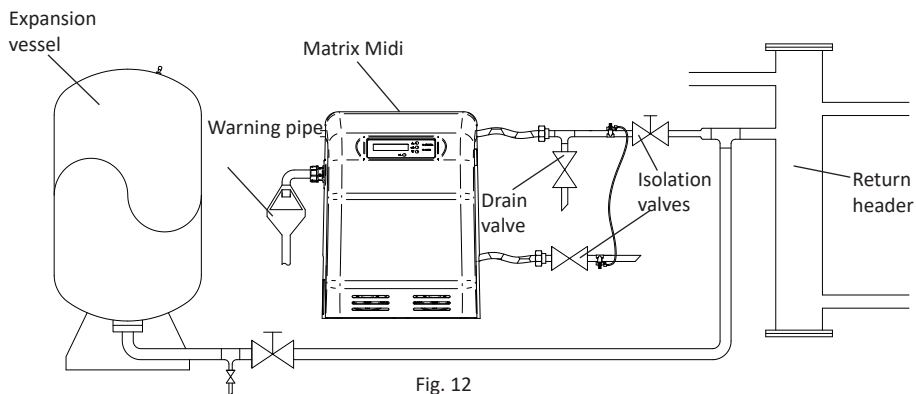

Fig. 12
2. Isolating valves **MUST** be installed on the unit inlet and outlet, before connection to the flexible hoses to allow the unit to be isolated if required. The isolation valve on the outlet should be of a lockshield type. See Fig. 12.
3. A drain valve must be fitted on the outlet of the Matrix Midi before the isolation valve. See Fig. 12.
9. The Matrix Midi should be connected to the system return header along with the expansion vessels as specified in BS 7074. See Fig. 12.